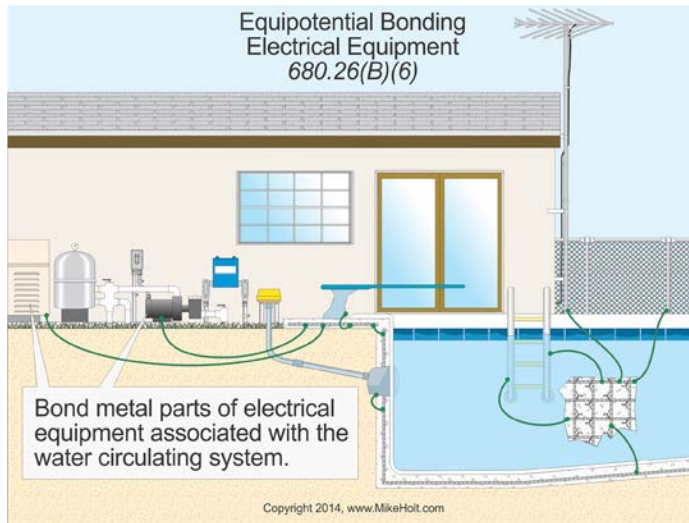

Figure 680–45
(6) Electrical Equipment. Metal parts of electrical equipment associated with the pool water circulating system, such as water heaters, pump motors, and metal parts of pool covers must be bonded to the equipotential grid. Figure 680–45